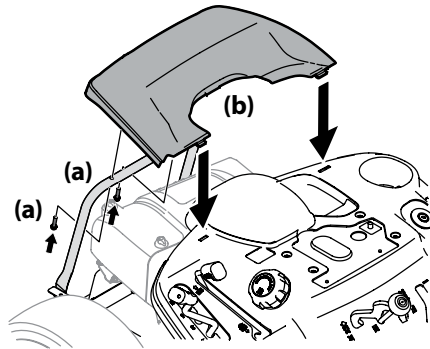

Figure 2-11
1. Remove the two factory installed hex screws (a) located on the rear engine cover (b). Retain the hex screws (a) for later instructions. See Figure 2-11.
2. Install the rear engine cover (b) by positioning it in place as shown in Figure 2-11. Tip the rear engine cover (b) forward to fit it into the slots provided, then rotate it backwards to align the mounting holes.